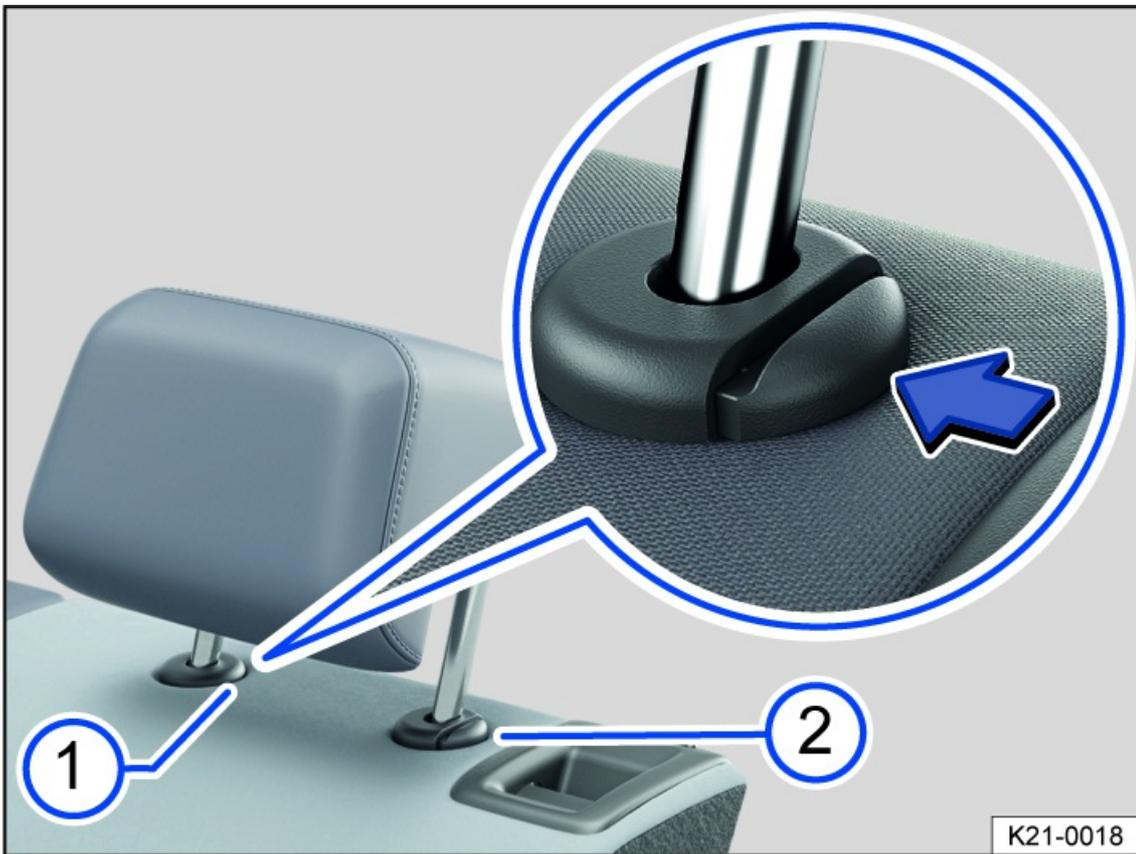

Fig. 72 Removing the rear head restraint (general example).
3. Press the button *fig. 72* on the head restraint guide.
4. At the same time, press button *fig. 72* while a second person pulls the head restraint all the way out.
3. Push the head restraint downward while pressing the *fig. 72* button.